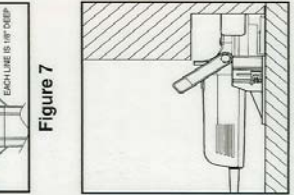

Figure 7
- A depth gauge adjustment scale is provided just behind the three arm knob with nine 1/8" increments (figure 7).